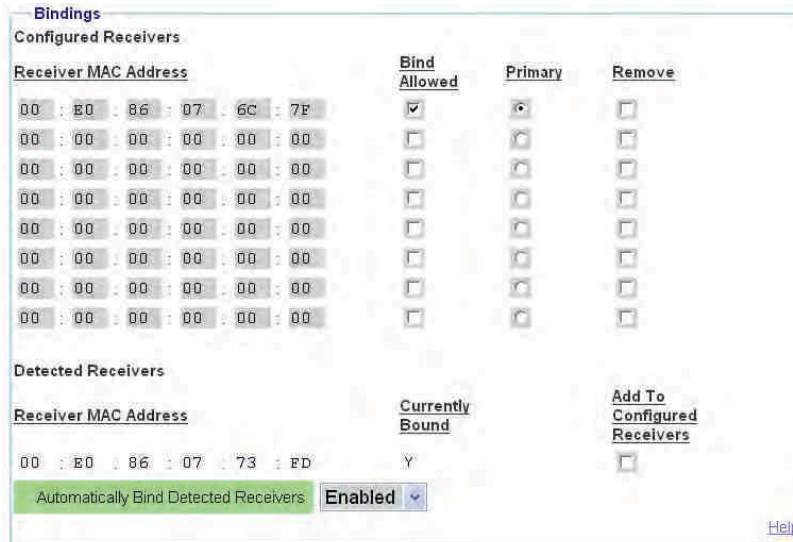

Figure 3.3: Bindings Page
4. Scroll to the bottom of the Bindings page and verify that all active receivers are listed (by MAC address) within the *Detected Receivers* table. Figure 3.3 on page 27 illustrates this table. If a receiver is not listed, verify proper LAN connectivity or power state of the receiver. If the receiver is not detected and your transmitter is configured for wireless operation, you may need to adjust the transmitter power setting, refer to *wireless transmission power settings* on page 42.
1. Within the Detected Receivers table, select the *Add to Configured Receivers* checkbox next to each detected receiver. Figure 3.3 on page 27 illustrates the Detected Receivers table.
5. For each receiver that is intended to receive media from this transmitter, set the *Bind Allowed* checkbox in the Configured Receivers table. The remaining receivers may be bound to a different transmitter. Figure 3.3 on page 27 illustrates the Configured Receivers table.